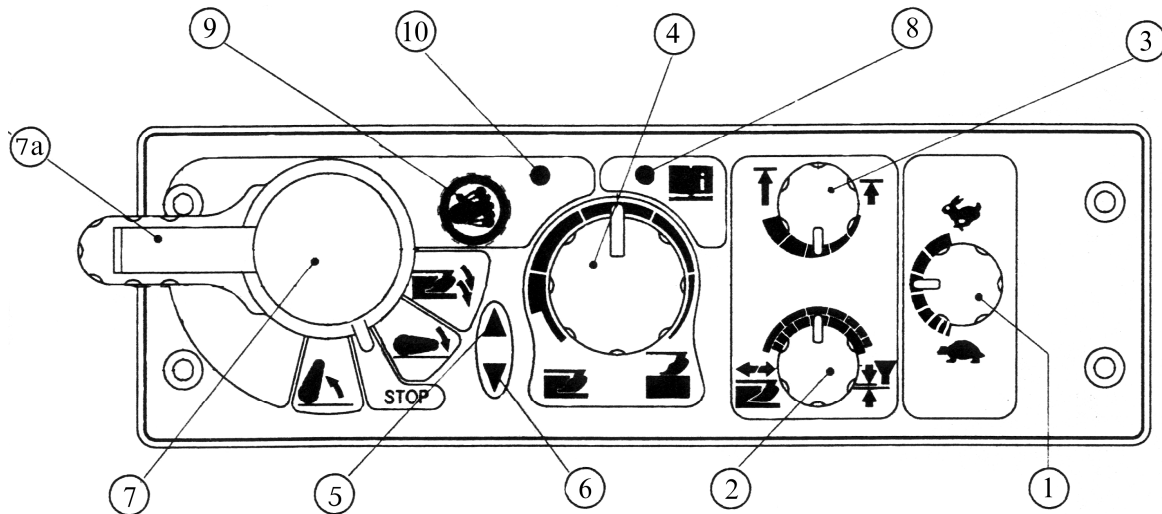

Fig. D-36. RHL control panel
- depending on the character of job, set the control method by means of the handle (2) (Fig. D-36);
- set the treatment depth and height of the implement lifting in the transportation position by means of the handles (4) and (3), respectively.
- to lower the hitch linkage, shift the handle (7) to the bottom fixed position. In this case, the indicator (6) goes out.